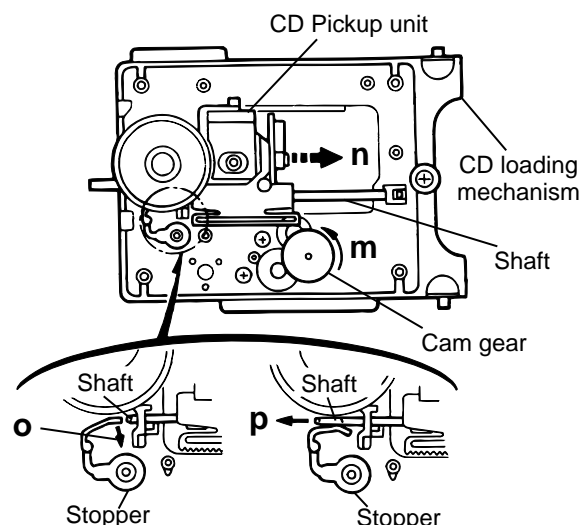

Fig.13
■ Removing the CD pickup unit (See Fig.13)